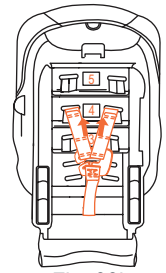

Fig. 38b
1. Loosen harness, unfasten harness end loops from splitter plate. Pull harness end loops through seatback. Thread harness end loops through desired shoulder position (Fig. 38b).